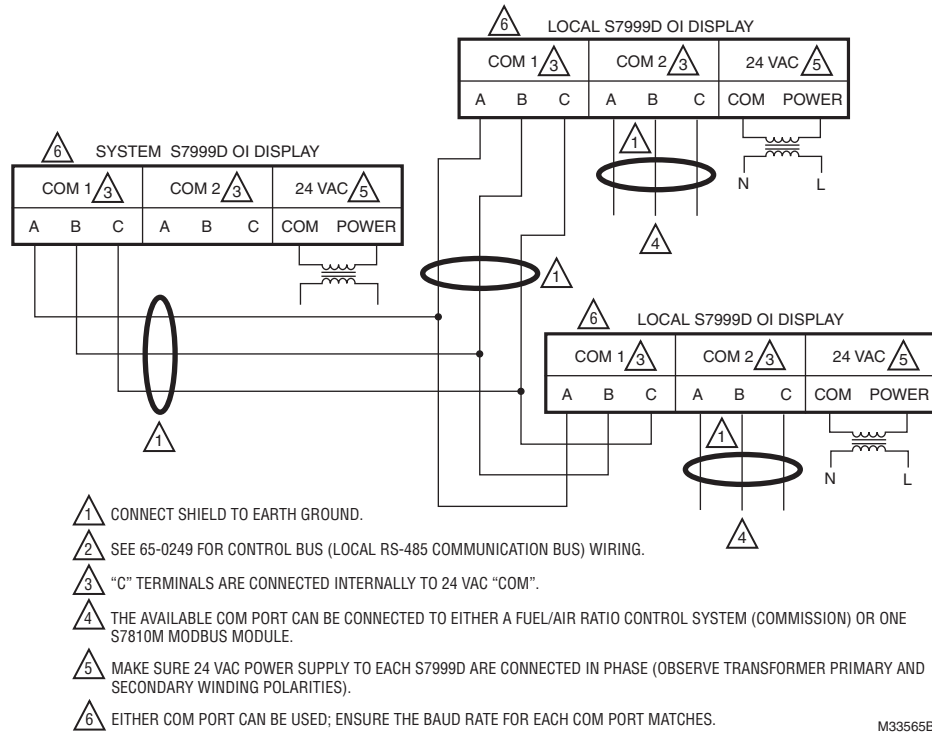

Fig. 9. System Modbus™ network wiring.
7. Wire the 24 Vac power supply and the RS-485 cables using the configuration and wiring diagrams in Fig. 3 to Fig. 9.